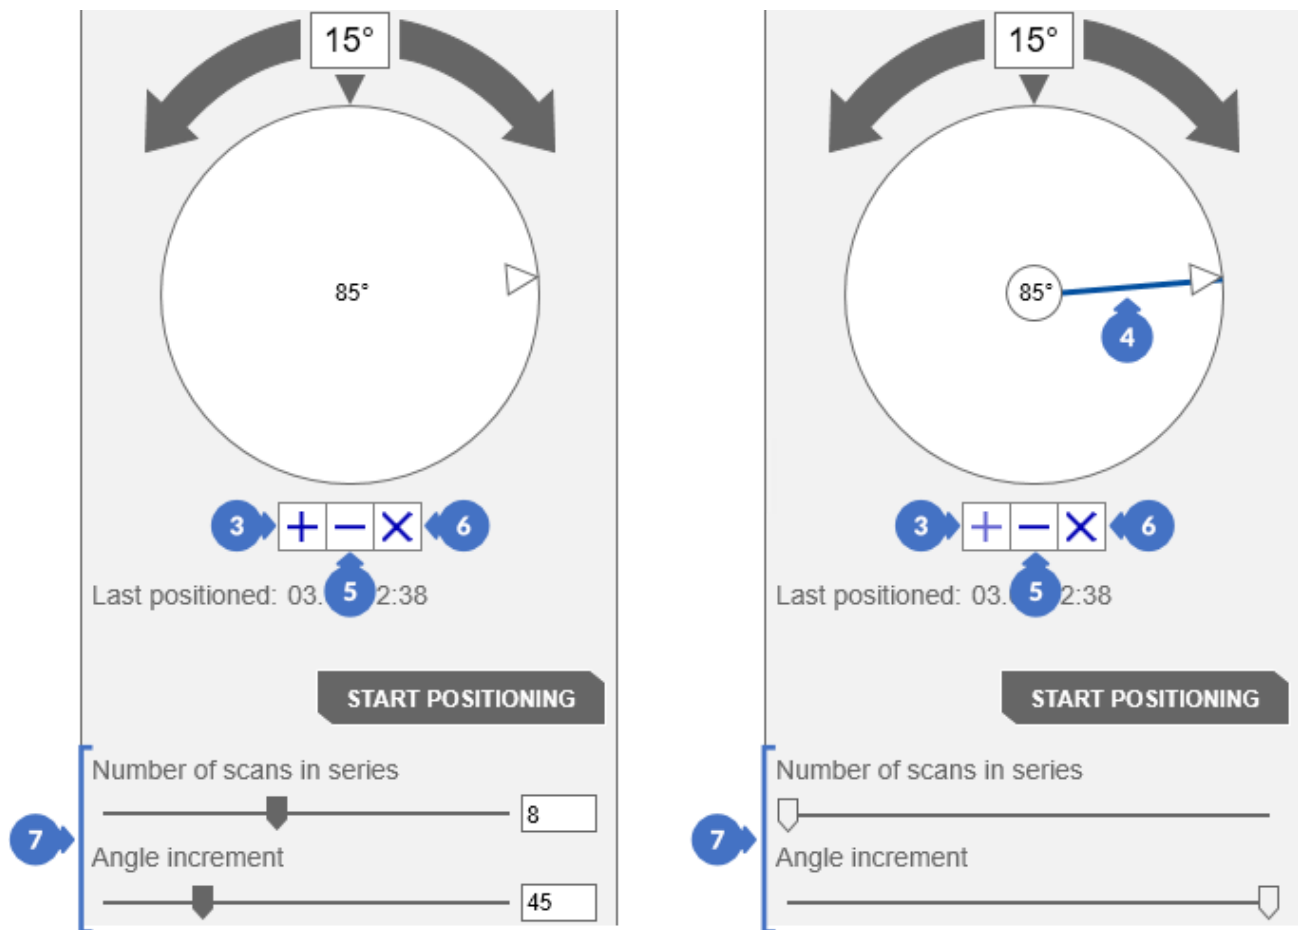

Figure 226. Setting individual table angles for a series
The second method of defining lines in the stage interface is used to set individual angles (Figure 226). There are buttons under the stage dial in the settings control. The plus button Add line (3) is used to add the current position of the table to the virtual dial (4). If there is at least one line on the dial representing the position of the table, the sliders with the number of scans and the angle definition (7) become inactive until all lines are deleted.